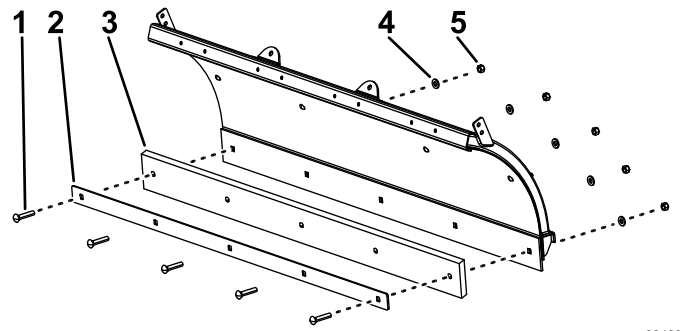

Figure 3
3. Secure the metal strap and urethane blade to the plow using 5 carriage bolts (1/2 inch), 5 washers (1/2 inch), and 5 top locknuts (Figure 3).